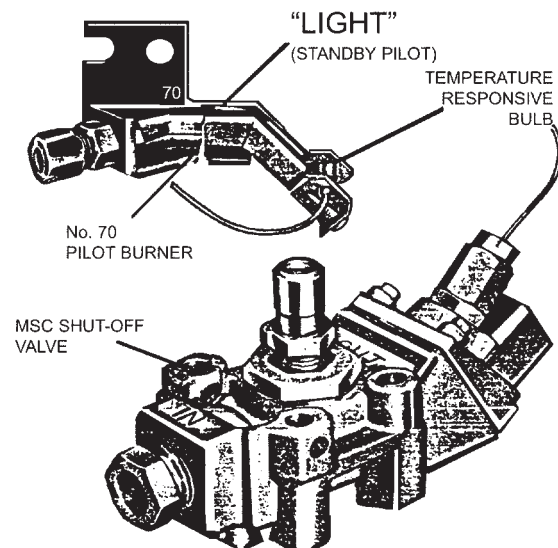

FIGURE 2
3. With SELECT-A-GAS PILOT ADJUSTOR in "open" position, (turn ADJUSTOR full clockwise for natural gas or full counter clockwise for LP gas) "LIGHT" standby pilot. (See Figure 2).
FOR LP-gas, turn adjustor approximately halfway between full open (LP) and "OFF". This lowers HEATER pilot flame. The size of HEATER pilot flame should be checked and adjusted, when griddle is "cold". If adjustment is necessary, adjust flame to that it surrounds "temperature responsive bulb" (See Figure 2).